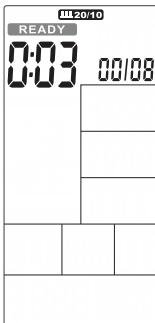

FIGURE 28
2. Cycle time counts down from 3 to 0, then console starts, buzzer beeps once per second and READY blinks once per second, displaying count '00 / 08' (Figure 28).